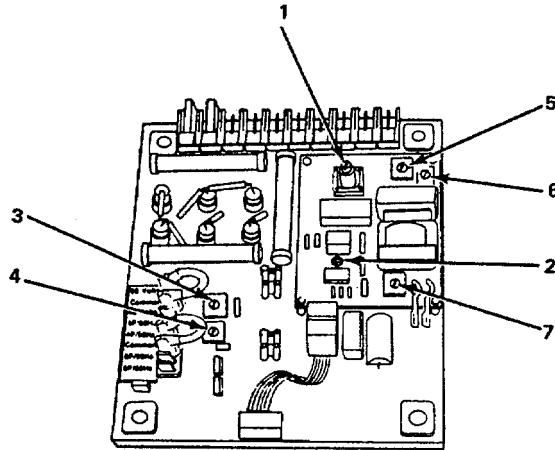

FIGURE 4-5. AVR Auxiliary Board.
- (1) Connect all ten leads to the AVR. Mount the AVR in the AVR box using the four threaded pillars
- (2) Turn the AVR coarse voltage control (1, Figure 4-5) all the way counterclockwise.
- (3) Start and bring the engine up to rated speed.
- (4) Turn the coarse voltage control (1) clockwise until the generator is producing approximately rated voltage. Turn the remote voltage trimmer control to obtain the voltage required.
- (5) The AVR gain control (2) is difficult to locate. It is on the main AVR control board and is accessible through a 0.160 in. (4 mm) diameter hole